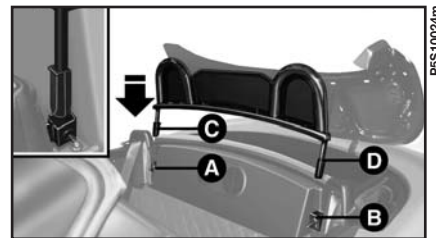

fig. 70
The wind stop is located behind the seats **fig. 70**. It increases driving comfort at all speeds by limiting the air turbulence created in the passenger compartment when travelling with the hood open.
3) Fit the ends of the wind spot **C** and **D** fig. 70 inside the previously fitted brackets. Make sure that the wind stop cover is facing the rear part of the car.